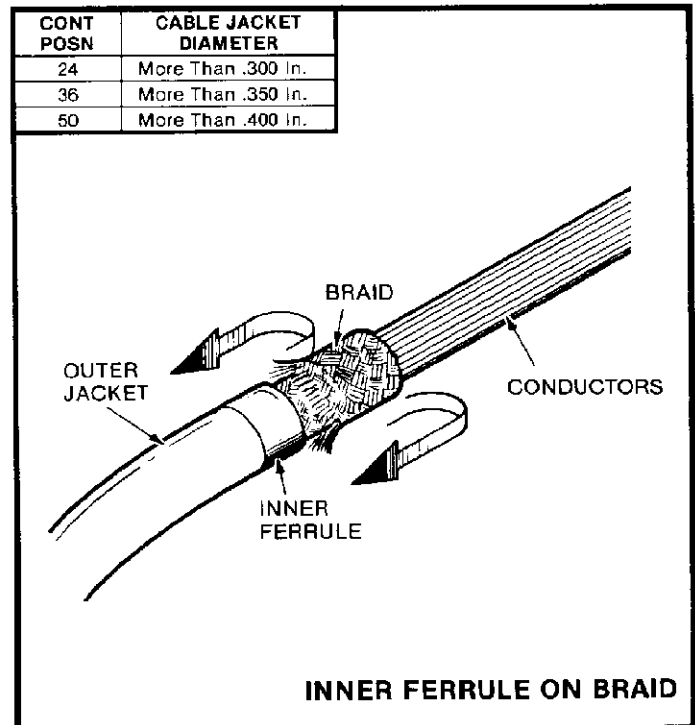

Fig. 4
1. Slide inner ferrule over cable braid and position at end of outer jacket (see Figure 4).